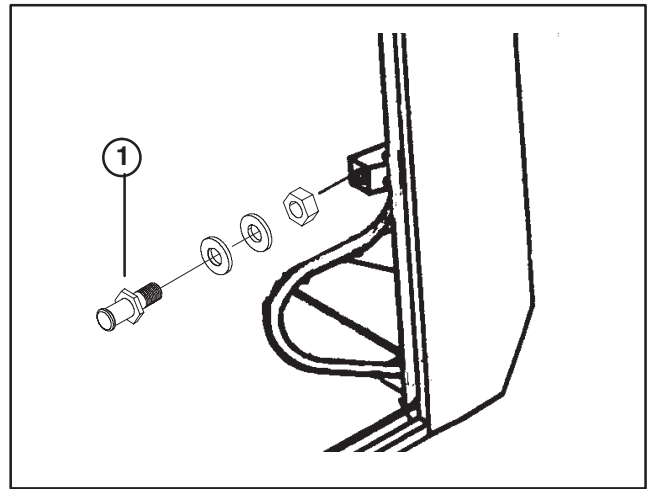

Figure 19
2. Install door latch striker to each door frame with a washer(s) and jam nut (Fig. 19).